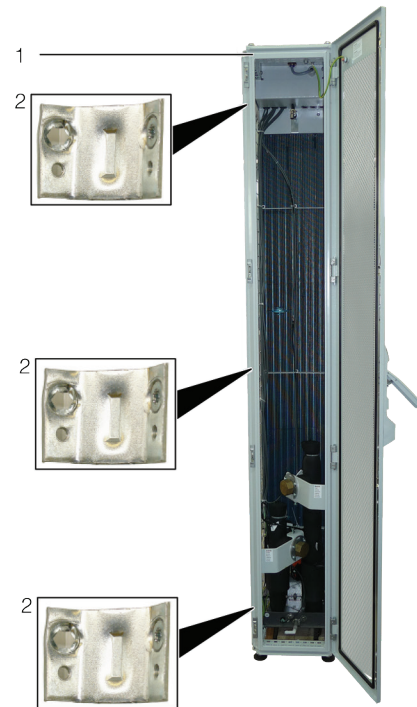

Fig. 27: LCP Rack – rear
- Using the corresponding assembly screws, fasten three baying connectors each (Fig. 27, item 2) onto the attachment points provided in the mounting strips on the front and rear of the LCP Rack or LCP Inline flush (Fig. 27, item 1).